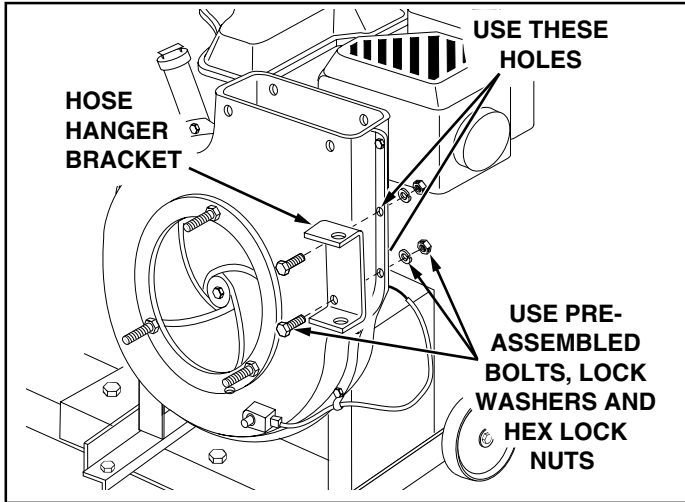

FIGURE 16
31. Remove the hex bolts, lock washers and hex lock nuts from the two holes in the impeller housing as shown in figure 16. Assemble the hose hanger bracket to the two holes using the bolts, lock washers and lock nuts which you removed.